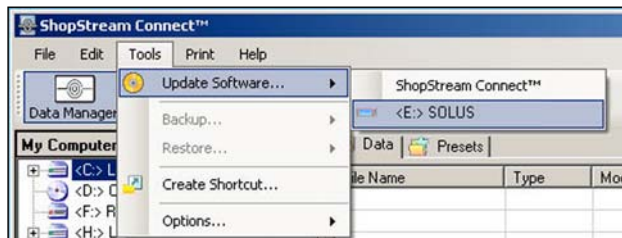

Figure C-10 Sample Update Software menu
- 6. Once ShopStream Connect opens; select Tools > Update Software > SOLUS from the Menu bar (Figure C-10).